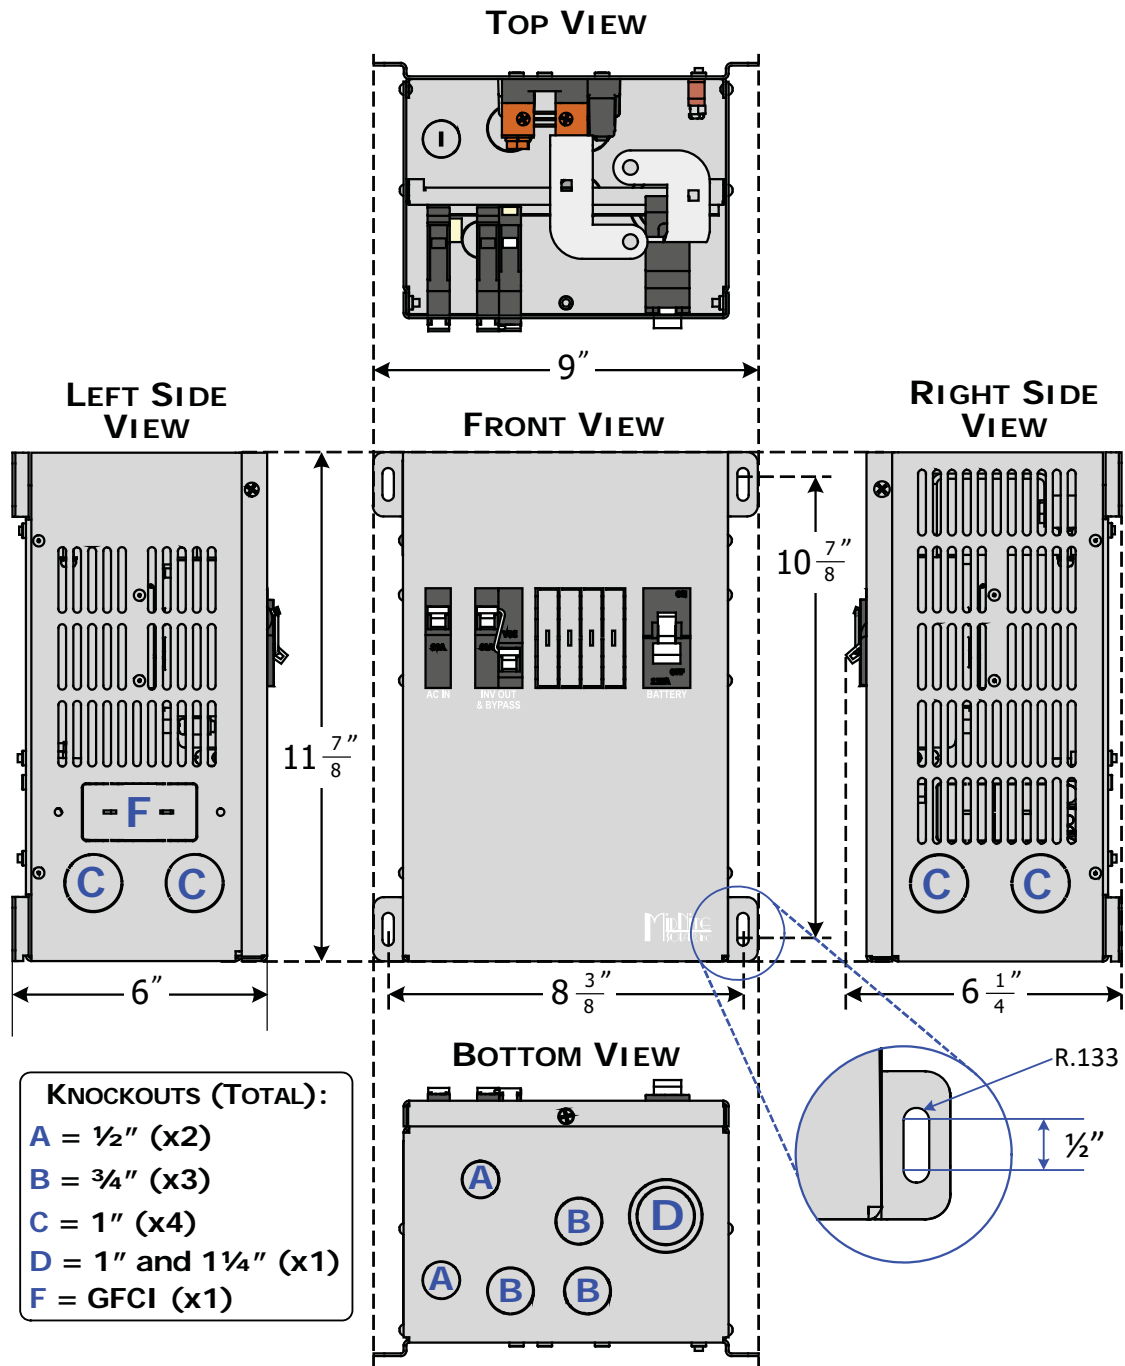

Figure 2-2, LR-BB Dimensions and Conduit Knockouts
- 1 **Mounting Feet (x4)** – Four holes for mounting the enclosure. See Figure 2-2 for size information on these holes.
Note: Additional knockouts are located on the bottom, see Figure 2-2.
Refer to the dimensional drawing in Figure 2-2 to determine an appropriate area to install the LR Breaker Box/MNLR4548RE inverter system. Install it only in a location that meets the following requirements:
The LR-BB includes knockouts for 1/2", 3/4", 1", and 1 1/4" conduits (see Figure 2-2). Remove the knockout that is close to the terminal that the wire will connect to. They can be removed by tapping the edge with a straight bladed screwdriver and a hammer, then twist out with pliers.